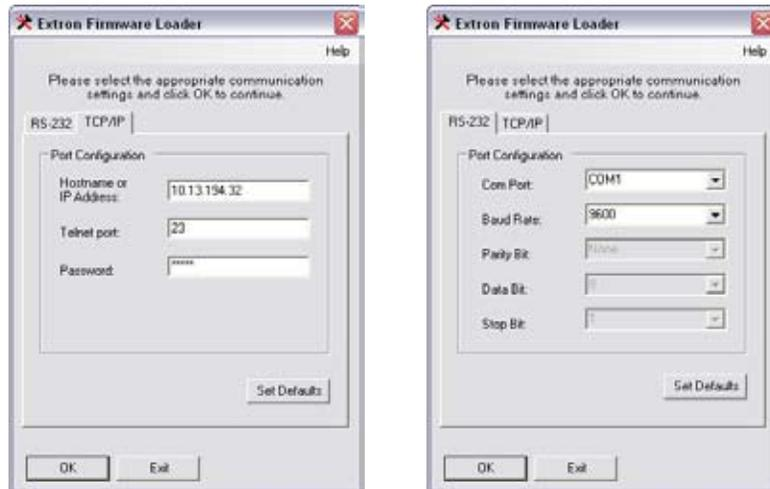

Figure 5-21 — Firmware Loader port selection and configuration
7. Click **Tools > Update firmware**. The Extron Firmware Loader port configuration window appears (figure 5-21).